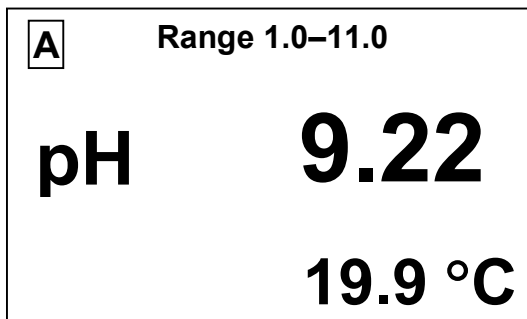

Figure 2.24
- 8 Use the “↓”/“↑” buttons to set the “▶” marker at **EXIT**. Press the “menu” **enter** button to put the pH-meter into the measuring mode as shown, for example, in Fig.2.24.